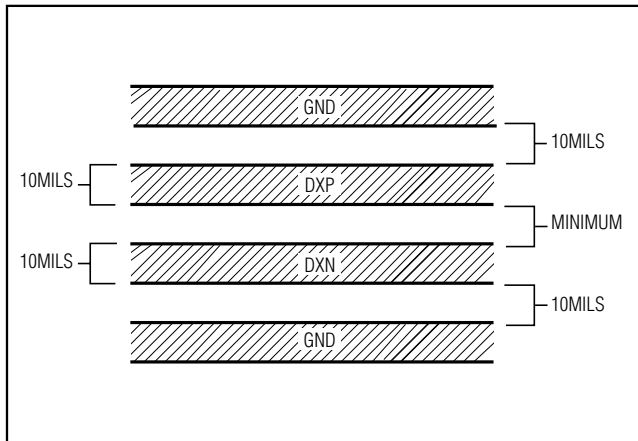

Figure 1. Recommended DXP-DXN PC Traces
- Route the DXP and DXN traces in parallel and in close proximity to each other, away from any higher voltage traces, such as $+12\text{VDC}$. Leakage currents from PC board contamination must be dealt with carefully since a $20\text{M}\Omega$ leakage path from DXP to ground causes about $+1^\circ\text{C}$ error. If high-voltage traces are unavoidable, connect guard traces to GND on either side of the DXP-DXN traces (Figure 1).
- Use wide traces. Narrow traces are more inductive and tend to pick up radiated noise. The 10mil widths and spacings that are recommended in Figure 1 are not absolutely necessary, as they offer only a minor improvement in leakage and noise over narrow traces. Use wider traces when practical.